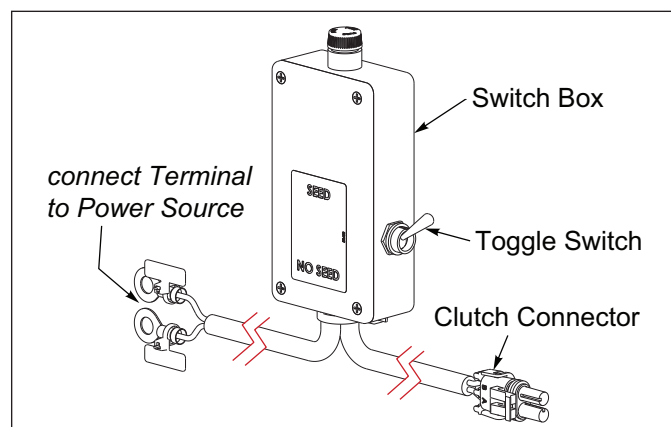

Figure 2-23: Switch Box Assembly
4. **Clutch Switch Box:** Connect Clutch Harness to Clutch Switch Box Cord. Connect Clutch Switch Box Cord with Ring Terminals to tractor power source. **See Figure 2-23.** Ring Terminals can be removed and replaced with a different power source connector. **Brillion Elite Mini Monitor:** Connect the Elite Mini Tractor Harness 14-Pin Connector to Brillion Elite